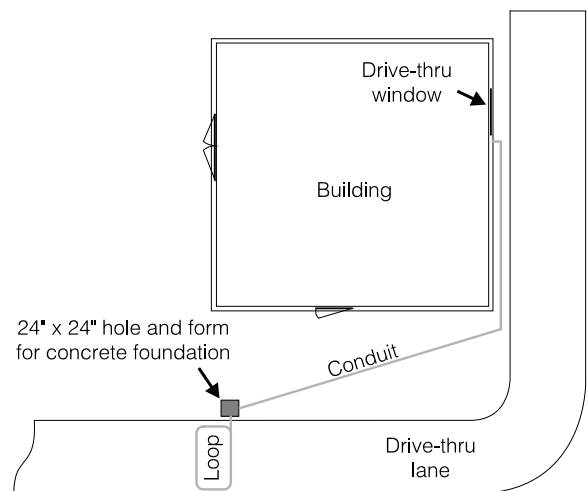

Figure 2. Typical site for concrete foundation
1. Position the foundation so that water will drain away from the base of the speaker post. The top surface of the foundation must be six to ten inches above the surface of the drive-thru lane. The side of the foundation must be 2 feet or less from the side of the drive-thru lane, and parallel to the lane as shown in Figure 2.